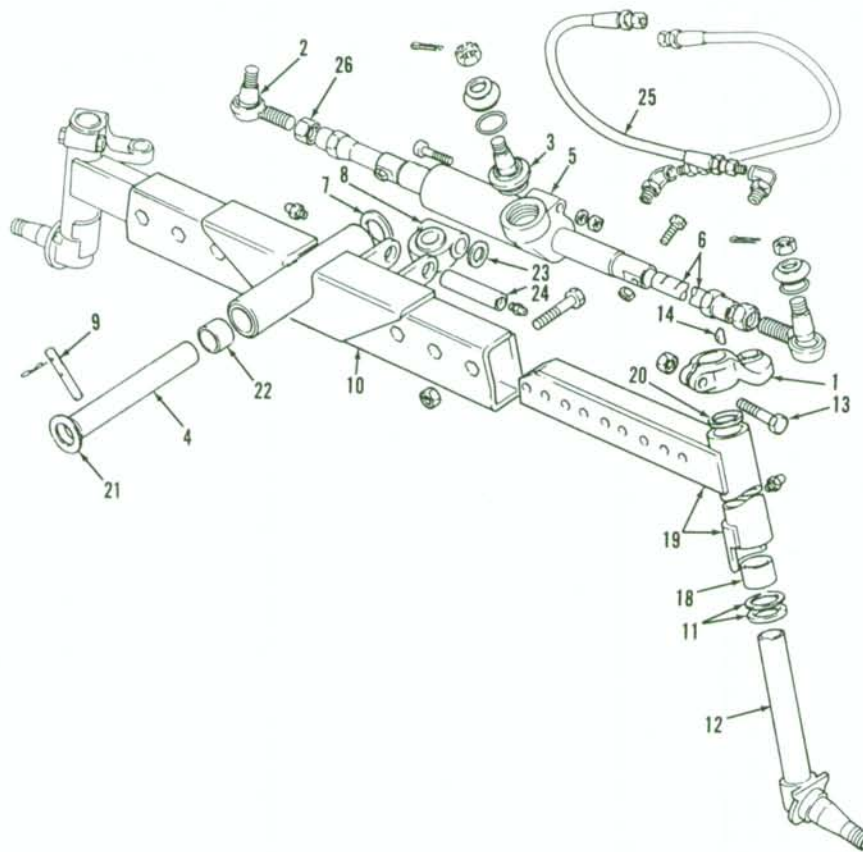
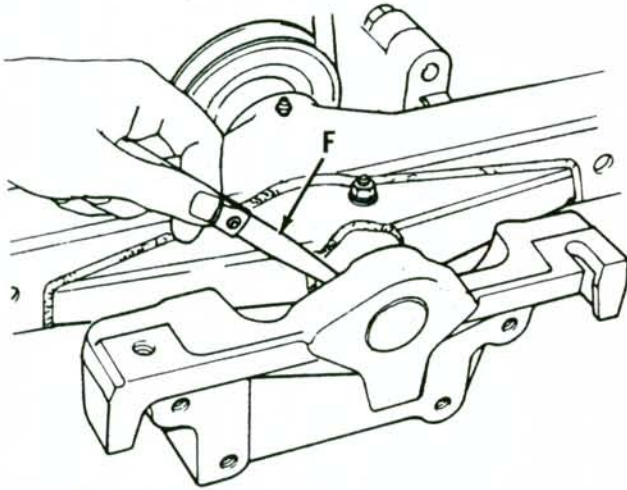
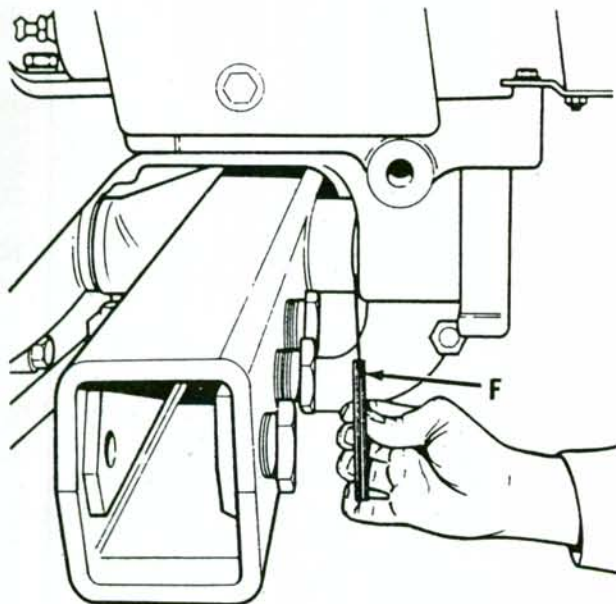

Fig. 8—Exploded view of front axle typical of type used on two-wheel-drive 399 models.
Fig. 10—End play of front axle should be measured with a feeler gauge as shown for 340-360 model with two-wheel drive.
Fig. 11—Measure end play of front axle with a feeler gauge as shown for model 399 with two-wheel drive.
3. SPINDLES, AXLE EXTENSIONS AND BUSHINGS. To remove spindle (12—Fig. 7 or Fig. 8), first remove the wheel and hub. Disconnect rod end (2) from steering arm (1), remove clamp screw (13) from steering arm, then remove steering arm. Remove key (14) and seal (20) from top of spindle, then lower spindle out of axle extension (19). Remove thrust bearing (11) from spindle. Clean and inspect parts for wear or other damage and renew as necessary.
of the axle, such as with a support located under engine sump. Removal of wheels, spindles and axle extensions will reduce weight and may make handling the center member easier; however, the complete axle assembly can be removed as a unit. Disconnect hydrostatic steering hoses from the steering cylinder or cylinders and cover openings to prevent the entry of dirt. Support the axle with a suitable jack to prevent tipping while permitting the axle to be lowered and moved safely. Remove retaining pin (9—Fig. 7 or Fig. 8), then use a suitable puller to withdraw axle pivot pin (4). Carefully lower the axle assembly and roll axle from under tractor.
Check axle pivot bushings and renew if necessary. Bushings are located in support housing of 340-360 models and should be installed flush to 0.5 mm (0.020 inch) below flush (A—Fig. 9) with housing bore. Split (Fig. 9) in bushing should be down and hole (B) for grease passage should be up as shown. Axle pivot bushings (22—Fig. 8) are located in axle of 399 models. On all models, it may be necessary to ream bushings after installation. Reverse removal procedure when assembling. Axle end play should be 0.05-0.25 mm (0.002-0.010 inch) on pivot pin. Push the axle toward rear on pivot pin, then measure axle end play with a feeler gauge as shown in Fig. 10 or Fig. 11. Shims (21—Fig. 7 or Fig. 8) are available in various thick-